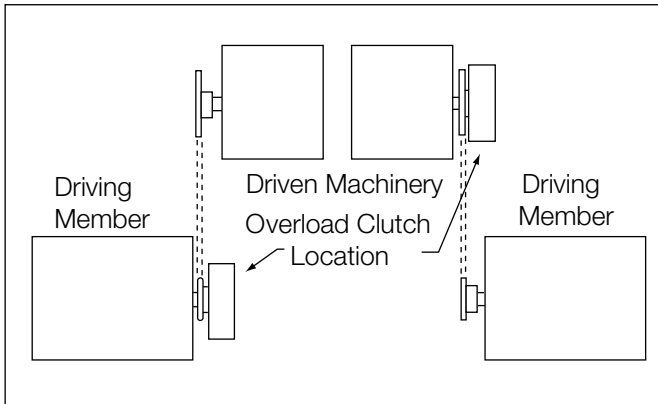

Figure 8
a. Either location of the clutch shown in Figure 8 is preferred in indirect drive applications.